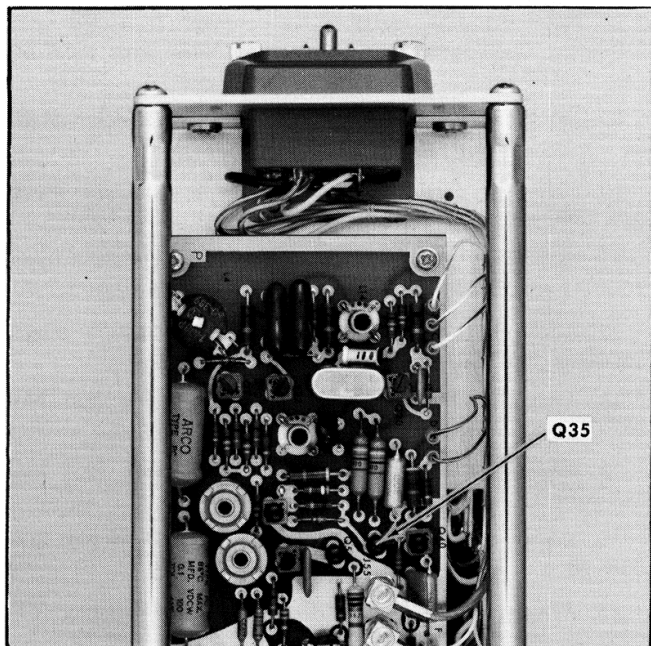

Fig. 5-1. Location of Q35.
3. For step 1 only, remove the Type 284 from the case and take out Q35. See Fig. 5-1 for location.